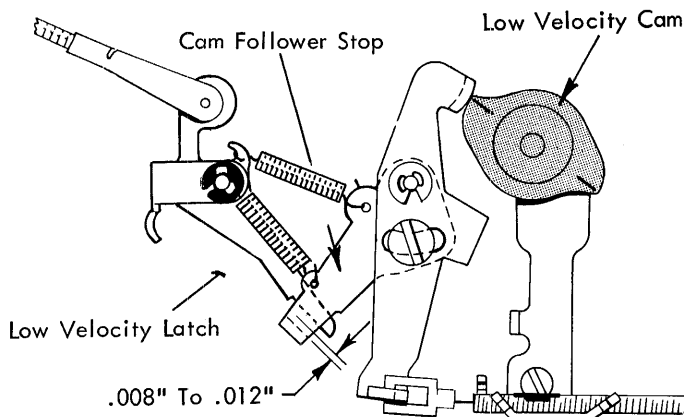

FIGURE 142.12 Low Velocity Cam Adjustment
10. Low Velocity Cam Adjustment - The cam should be adjusted radially on the filter shaft so that the following condition will exist: When a low velocity character is slowly hand-cycled, the low velocity latch should clear the adjusting stop on the cam follower by .008" to .012" (Fig. 142.12) just as the cam follower begins to move down off the high dwell of the low velocity cam. Advance or retard the cam to satisfy this condition.
- Slowly hand-cycle a low velocity character until one of the scribe marks on the cam is in line with the center of the shoe on the cam follower (Fig. 142.12).